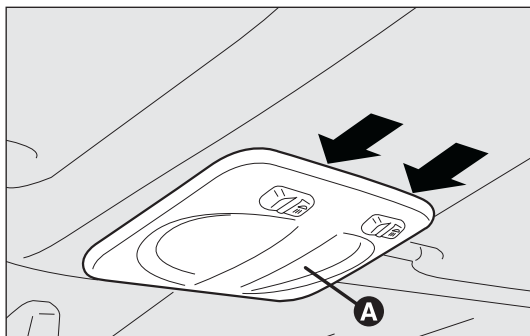
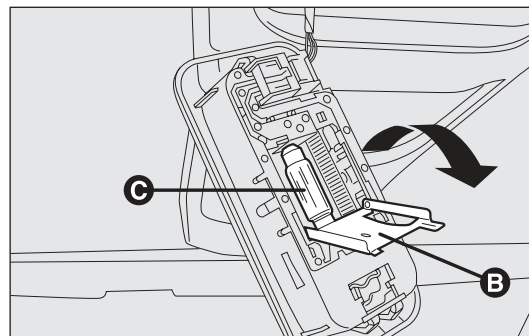

fig. 152
fig. 153
- ☐ act on the points shown by the arrows and remove light A-fig. 152;
- ☐ open the protective flap B-fig 153;
- ☐ replace bulbs C-fig. 153 by releasing them from the side contacts and making sure that new bulbs are correctly locked between these contacts;
- ☐ close the flap B-fig. 153 and fix the courtesy light A-fig. 152 in its housing, making sure it is locked correctly.